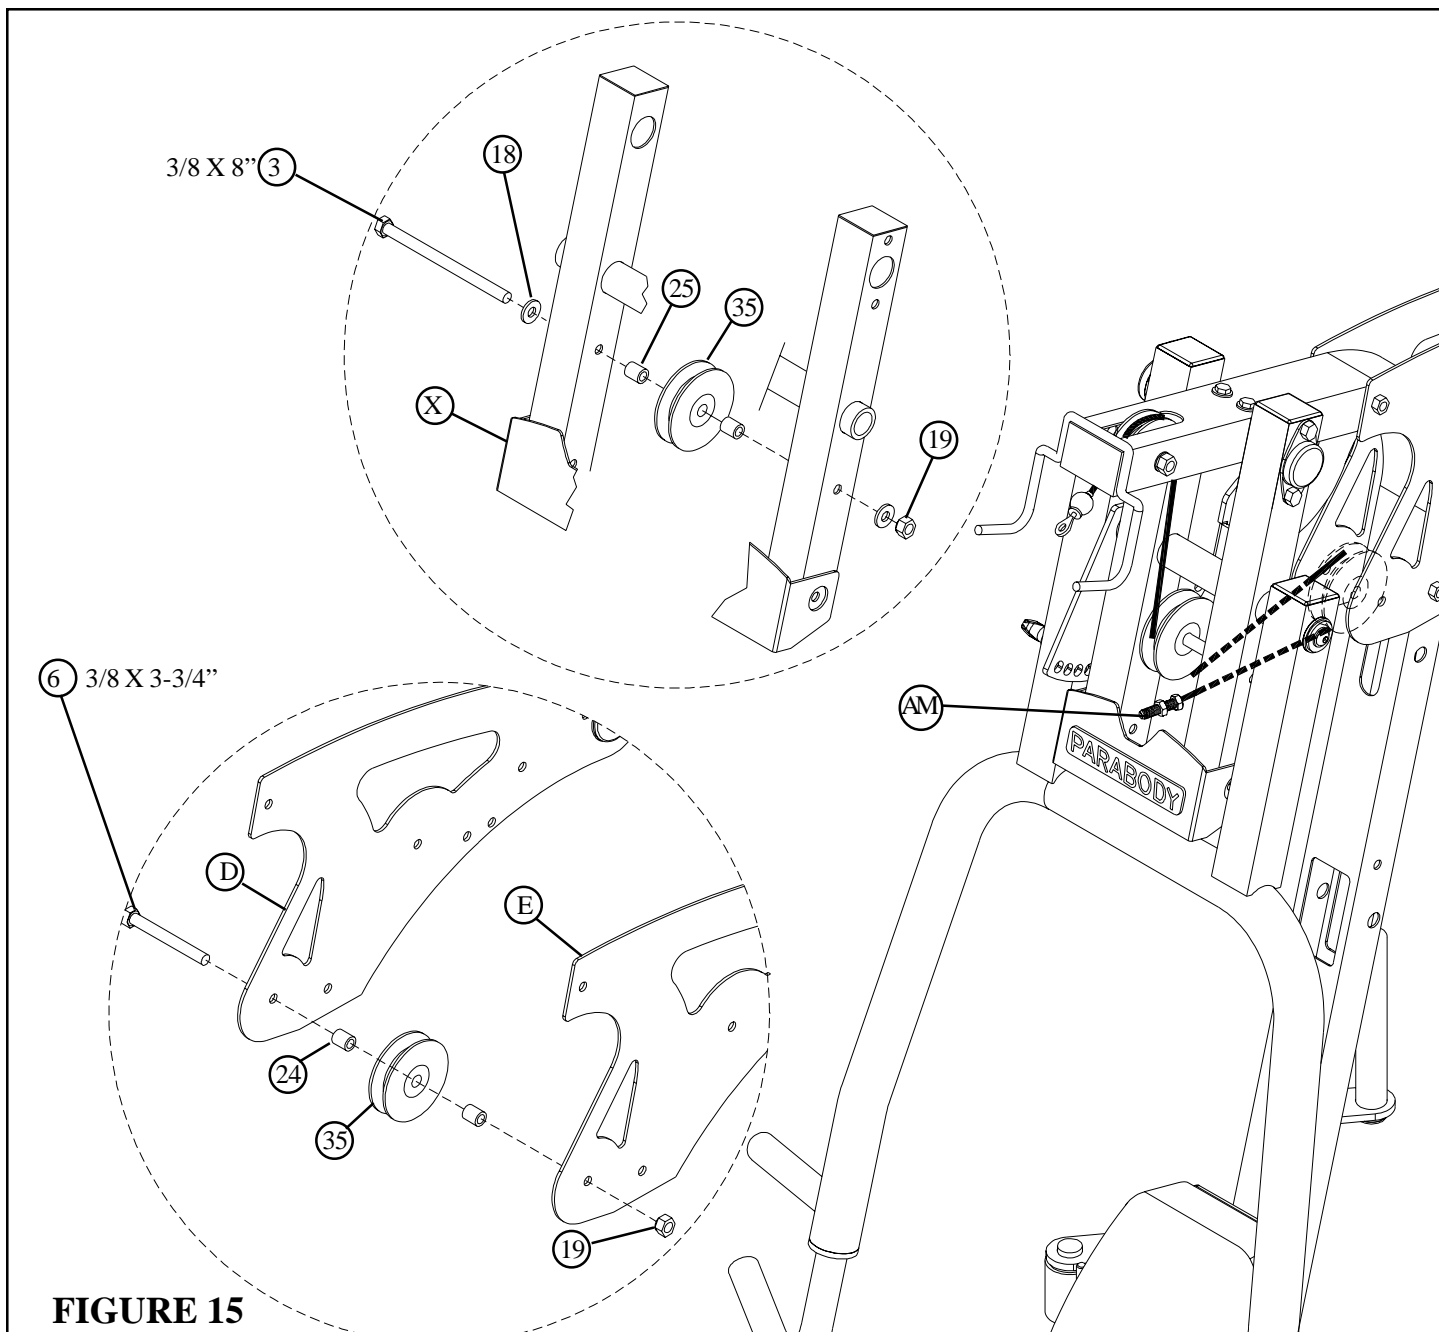

FIGURE 15
- Route the LAT CABLE (AM) through the PRESS ARM SUPPORT FRAME (X) and assemble one 3-1/2" PULLEY (35) to the FRAME PRESS ARM SUPPORT FRAME (X) using one 3/8 X 8" BOLT (3), two 3/8" WASHERS (18), two 3/8 X 1-1/4" SPACERS (25) and one 3/8" LOCK NUT (19). See FIGURE 15.
- Route the LAT CABLE (AM) around one 3-1/2" PULLEY (35) and assemble the PULLEY to the LEFT (D) and RIGHT (E) BOOM PLATES using one 3/8 X 3-3/4" BOLT (6), two 3/8 X 15/16" SPACERS (24) and one 3/8" LOCK NUT (19). See FIGURE 15. **(NOTE: Make sure the cable runs in the grooves of the pulleys.)**